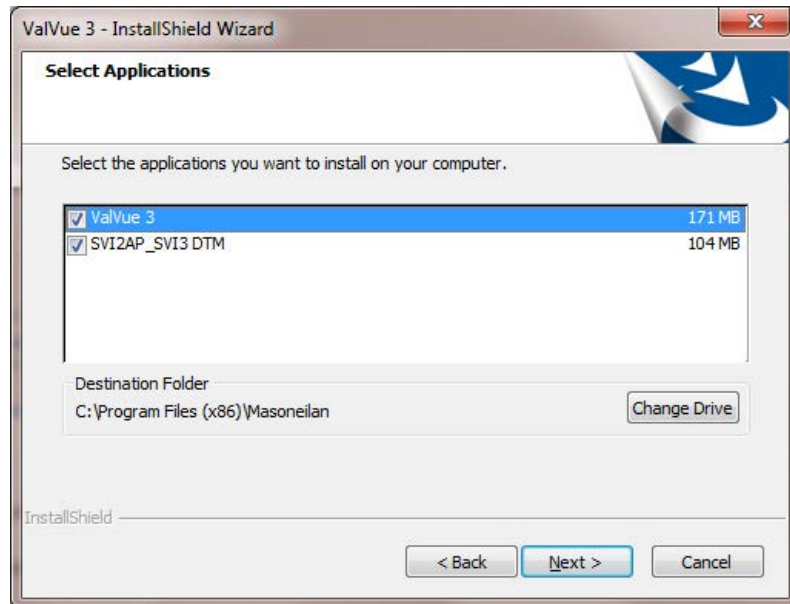

Figure 6 Choose Programs for Installation
5. Click **I accept the license.....**, **Next** and Figure 6 appears.